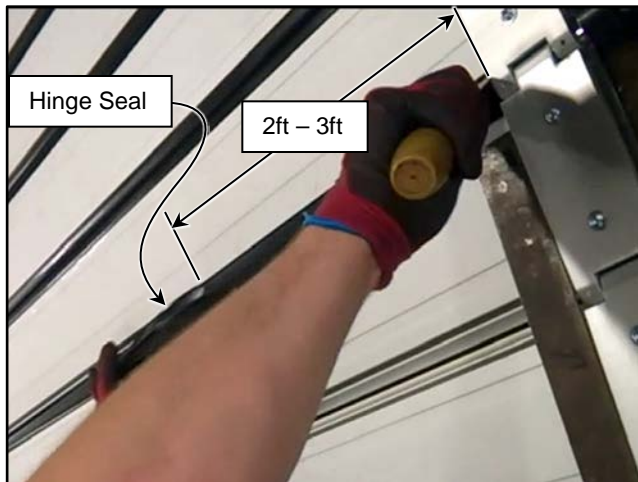

Figure 36
- Using the Convex-Rounded hand roller tool supplied, firmly press the edges of the outer 2-3 feet of the seal into the channel as shown. (See Figure 36)